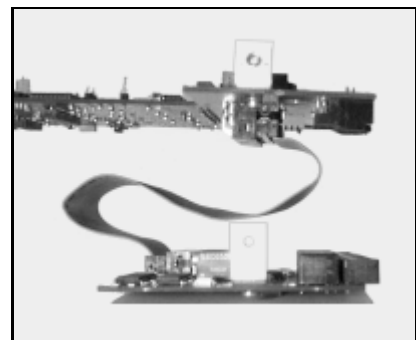

FIGURE 3.4 Alarm Ribbon Cable
- Begin to slide the processor card back into its slot holding the alarm card parallel below, allowing the ribbon cable to bend into a comfortable 'S' shape. See Figure 3.4 on page 9.